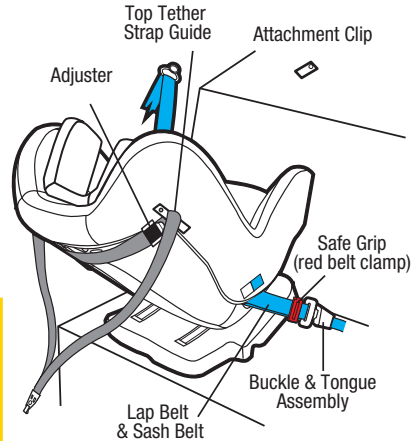

Figure 6
**Step 5:** Locate the adjuster at the side of the restraint and secure using the Top Tether Strap Guide (refer Figure 6 & 7).